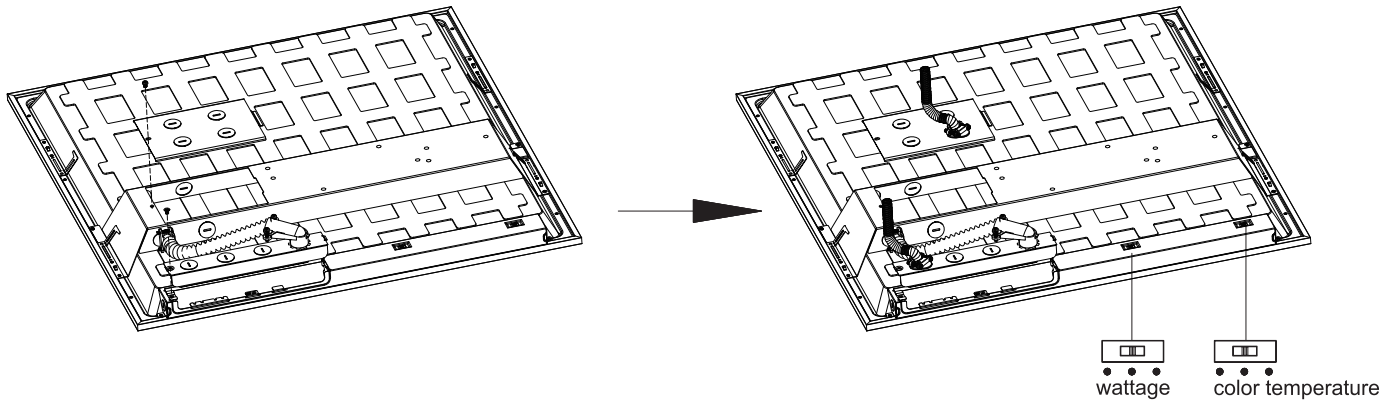

Fig. 1
- 1.) Unscrew the driver cover on the backside of the fixture and connect the input power supply conduit to the driver box. (Fig. 1)